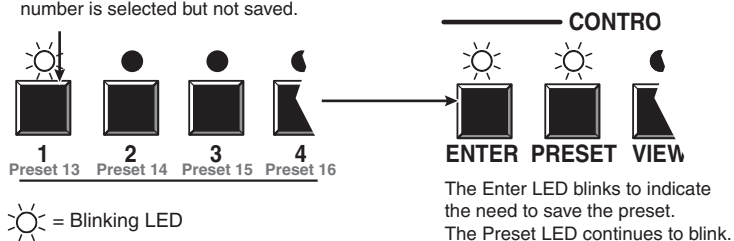

Figure 3-36 — Select the preset
3. Press and release the Output 1 button (figure 3-36).